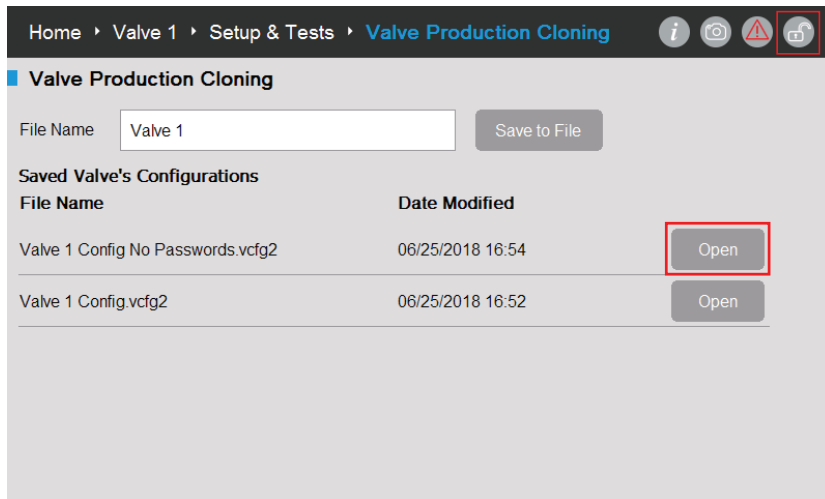

Fig. 114: Valve Production Cloning screen.
5. On the 'Valve Production Cloning' screen that appears, log in under the OEM access level by selecting the padlock symbol  in the upper right hand corner of the page. Refer to Fig. 114.
6. Select the appropriate valve configuration to load to the valve by pressing the 'Open' button beside it (Refer to Fig. 114). The configuration cloning groups page will pop up.